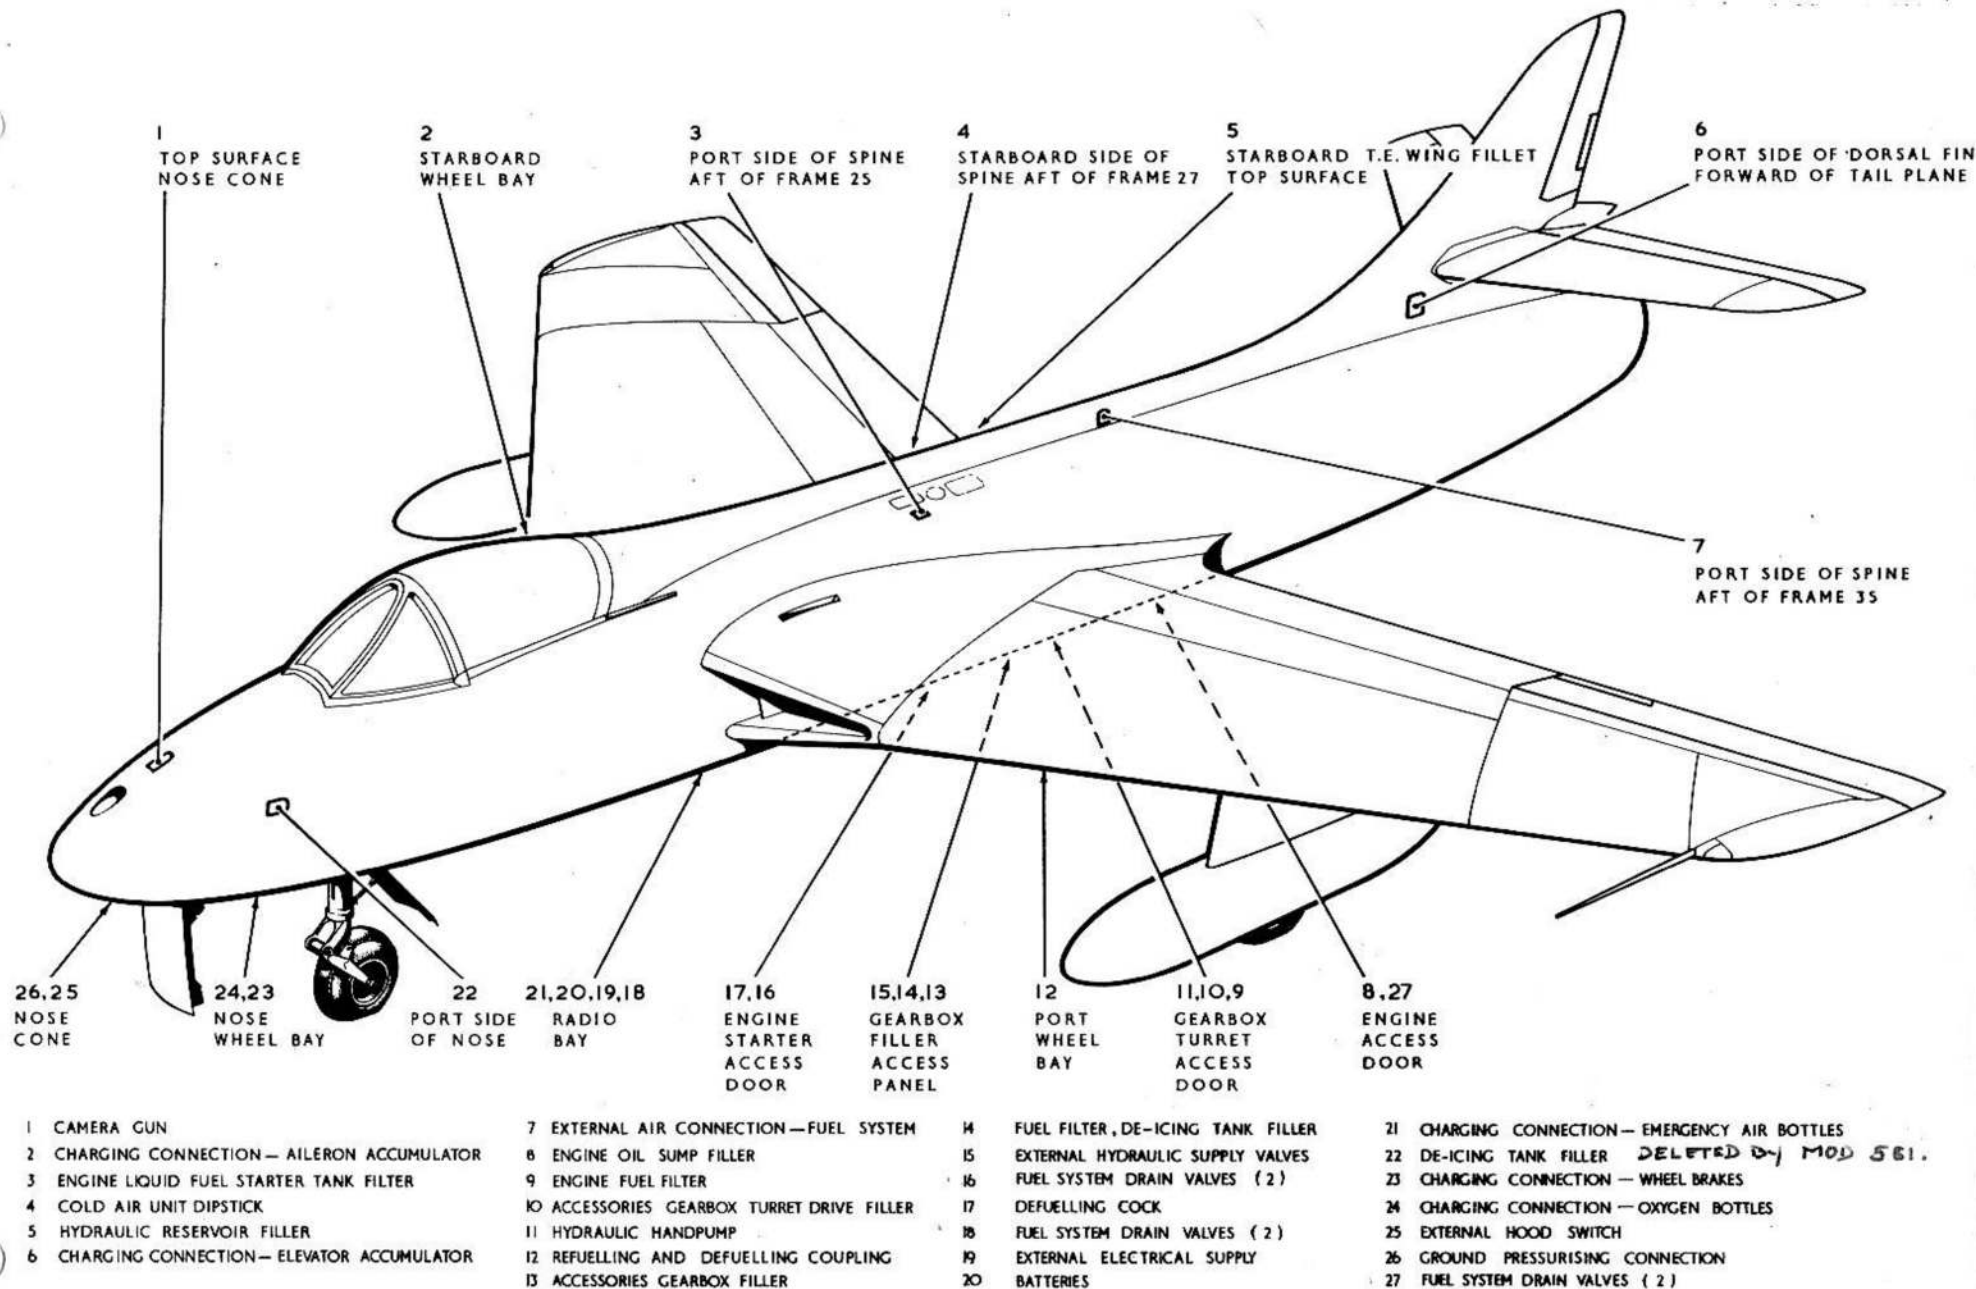

FIG. 1 SERVICING POINTS
5. To facilitate the drainage of any water that may accumulate in the fuel system, six small drain valves are provided at the lowest points of the fuel system together with a small plug in the engine fuel filter casing. These must be used daily to drain off a few pints of fuel and any water that may have accumulated. The position of these valves are indicated in fig. 1 items 16, 18 & 27. To use the valves, remove the sealing caps and insert a suitable length and diameter of hose into each valve in turn. Inserting the hose pushes open a spring loaded valve. When drainage of water is complete, remove the hose, replace the sealing caps and secure the access doors.
6. Access to the filler neck of the hydraulic reservoir is obtained by removing an access door from the top surface of the starboard wing fillet (fig.1, item 5). The filler neck is provided with a sight glass to facilitate checking the level. If, with the aircraft standing on its alighting gear with the hydraulic accumulators inflated and fully charged and the landing flaps and air brake up, the level no longer overlaps the white background below the sight glass, the reservoir must be topped up. To top up, remove the filler cap slowly to release any built up pressure and pour in fluid until it reaches the white background. A container, fitted with a flexible nozzle, should be used to facilitate the operation. When refilling is complete, replace the filler cap securely and mop up any spilled fluid.
the cabin between frames 10 and 11 above the cabin shelf. If the pressure is below that indicated in the Leading Particulars, the bottles must be recharged. An in-situ charging valve, located on the port side of the battery mounting platform and accessible via the radio access door (fig.1, item 21), is provided for the purpose. All four bottles are charged simultaneously through the one valve.
8. Access to the wheel brakes hydraulic accumulators and their charging connection is from within the nose wheel bay, port side. The pressure in the accumulators is indicated on the brake accumulator pressure gauge on the rear of the cabin port shelf. If the air pressure shown on the gauge is below that quoted in the Leading Particulars, after dissipating the hydraulic pressure by operating the brakes until they cease to operate, the accumulator must be recharged through the charging connection in the wheel bay (fig.1, item 23).
they cease to operate, the air pressure should be checked by connecting a pressure gauge to the charging connection and if below that quoted in the Leading Particulars, the accumulator must be recharged (Fig.1, item 2).
When pressure is dissipated prior to recharging, the power control for the ailerons is automatically disengaged and, therefore, it is important to ensure that the pawls of the hydro-booster jacks are re-engaged before flight by holding the aileron and operating the control column, while using the hand-pump (fig.1, item 11).
10. Access to the hydraulic accumulator and its charging connection may be obtained by removing an access door in the port side of the dorsal fin just forward of the tail plane. The access door is provided with a window to enable the accumulator pressure to be checked by reference to a pressure gauge located adjacent to the accumulator. If, after dissipating the hydraulic pressure by operating the controls a number of times until they cease to operate, the air pressure shown on the gauge is below that quoted in the Leading Particulars, the accumulator must be recharged after removing the access door (fig.1, item 6).
11. The two oxygen cylinders are mounted in the nose of the aircraft between Frames 4, 5 and 6 on the starboard side of the aircraft, the in-situ charging valve Mk.8or Mk.10 being mounted below them on the forward face of Frame 6, (Fig.1, item 24). Access to both the cylinders and charging valve can be obtained from within the nose wheel bay. The cylinders may be re-charged in-situ to the pressure quoted in the Leading Particulars, through the valve, or the cylinders may be replaced by fully charged cylinders as described in Section 3, Chapter 10 of this handbook. The procedure for in-situ charging is described in A.P.1275A, Vol.1, Section 8, Chapter 3.
12. The two 12 volt batteries are carried on a platform mounted at the bottom of the radio bay in the front fuselage. Access may be obtained via the radio access doors (fig.1, item 20) and the procedure for changing the batteries is as follows:-
~~13. The de-icing tank is mounted between frames 4 and 5 (Fig.1, item 22), access being obtained by removing a small access panel in the port side of the nose of the aircraft. The tank should be filled up to the level of the filler cap with de-icing fluid to the specification quoted in the Leading Particulars.~~
14. The filler for the liquid starter fuel tank is accessible via a small access panel in the top port side of the centre fuselage, just aft of the main spar (Fig.1, item 3). The dipstick is marked for four starts (approx.  $\frac{1}{2}$  gall. per start). The tank should be topped up to the upper start mark on the dipstick. Care should be taken to ensure that no liquid is spilled as it is detrimental to electric cables etc.
15. An access door in the top starboard side of the centre fuselage (Fig.1, item 4), between frames 27 and 28 gives access to the cold air unit dipstick and filler orifice. The oil level in the unit should be examined daily and topped-up as necessary with oil as quoted in the Leading Particulars until
16. The engine oil sump is filled under pressure via a self sealing connection which is accessible through the main engine access door (Fig.1, item 8). The sump is provided with a sight glass to indicate the oil level. If level is low as indicated by the sight glass, oil should be pumped into the sump via the self-sealing connection until level is correct. The type of oil to be used is quoted in the Leading Particulars.
17. The accessories gear-box, and the turret incorporated in the drive assembly, are each provided with a filler and dipstick. Access to the gearbox filler is via an access door on the underside of the fuselage forward of the rear spar (Fig.1, item 13) and that of the turret via a larger door situated just aft of the rear spar (Fig.1, item 10). Prior to checking the level, ensure that the dipstick of each unit is pressed right home before removing. If level is low as indicated by the dipstick, replenish until the oil is level with the overflow
18. The fuel system filter de-icing tank is mounted in the engine bay. The tank is filled via two self-sealing couplings mounted adjacent to the bottom access door (fig.1, item14) forward of the rear spar in the centre fuselage. Alcohol is pumped from a ground supply to the aircraft tank. During the process of filling, the displaced air returns to the supply tank via a pipe which contains a sight glass. When alcohol is seen in the sight glass, the aircraft tank is full.